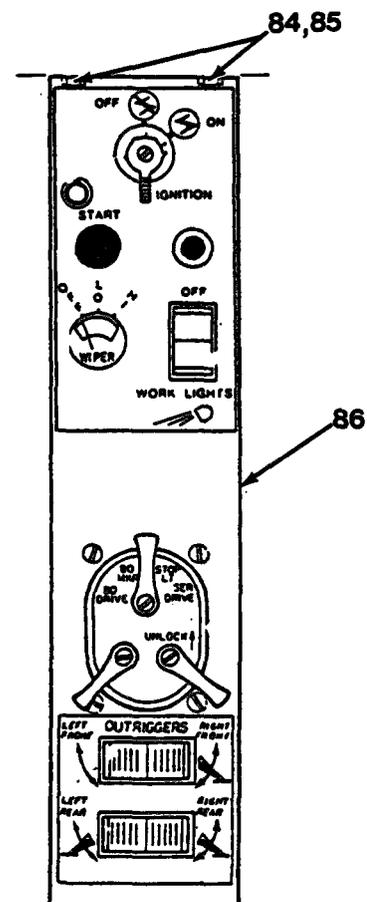

Figure 17-10
35. Remove two nuts (84), capscrew (85) and side sloping dash panel (86, Figure 17-10).